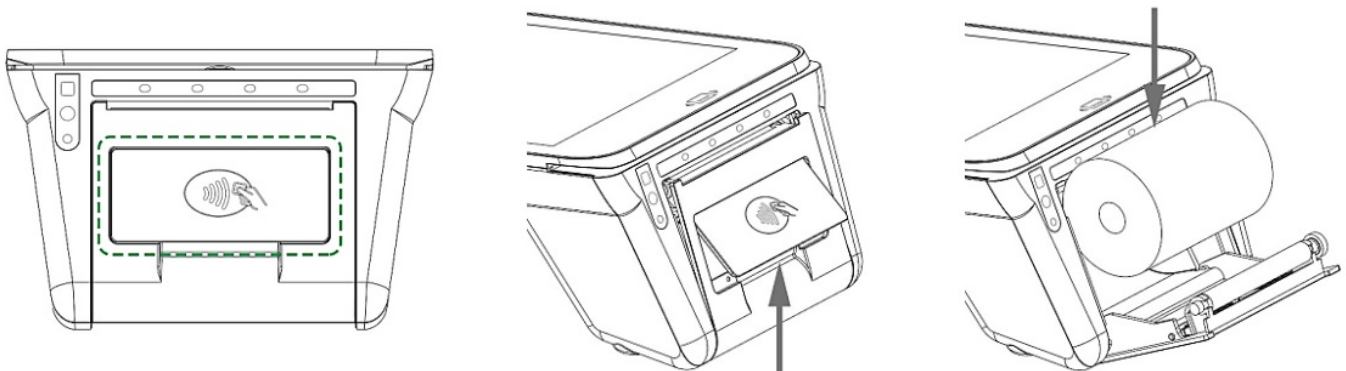

Figure 10
STEP 1: Gently pop the printer cover's latch; then pull the cover upward to open the paper roll cover (Figure 10).